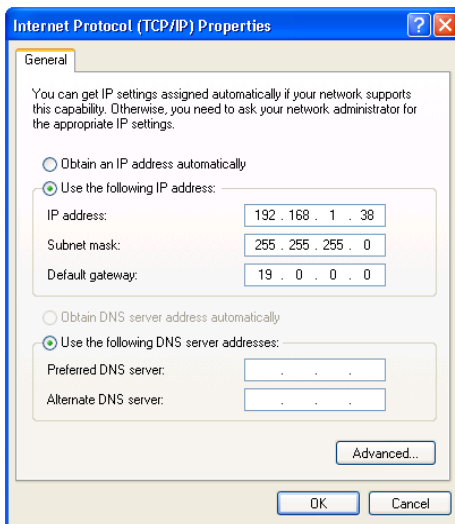

Figure 5: Internet Protocol (TCP/IP) Properties Window
6. Select Use the following IP Address, and fill in the details as shown in Figure 5.